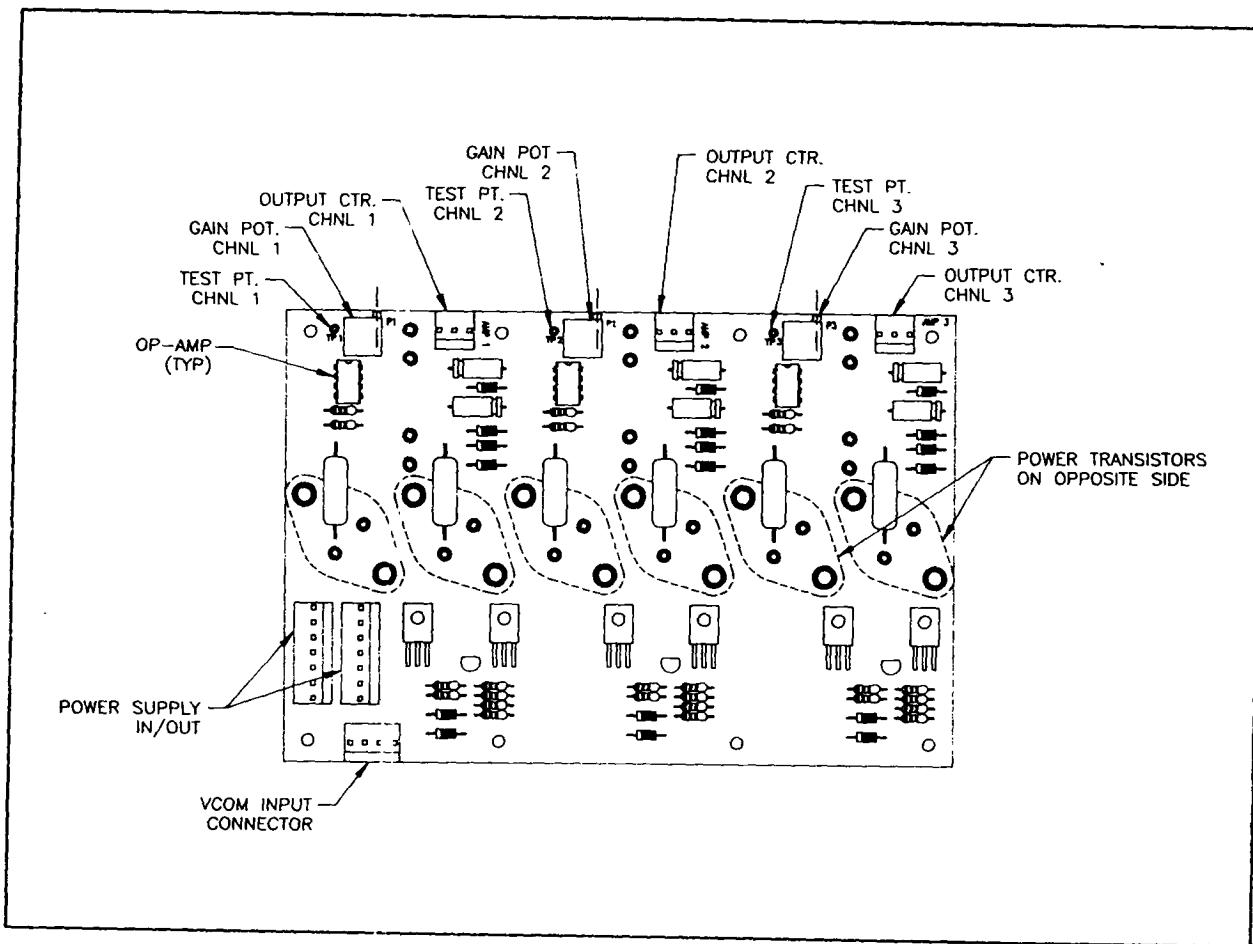

FIGURE 7-3 D.C. Amplifier Module
The D.C. Amplifier Module as shown in Figure 7-3 contains three (3) separate amplifiers, each supplied with $+/-$ 26 VDC. The signal to each amplifier is $+/-$ 10 VDC. The output is the motor voltage of $+/-$ 20 VDC. at 2 amperes each.